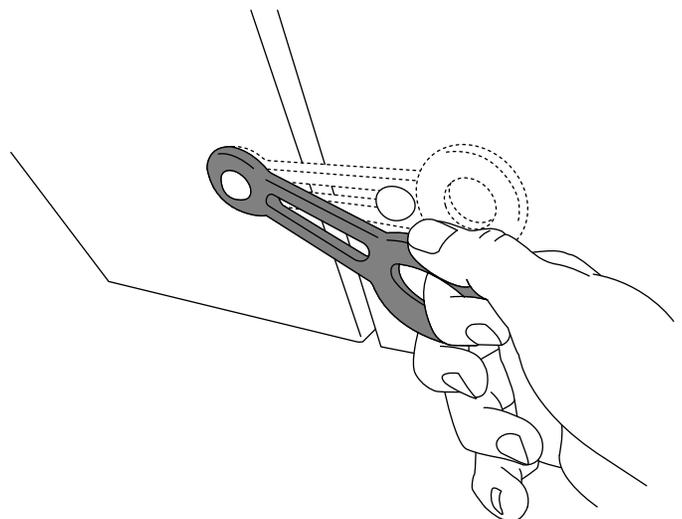

Figure 18
4. Close the engine cowl and secure the cowl latches (Figure 18).